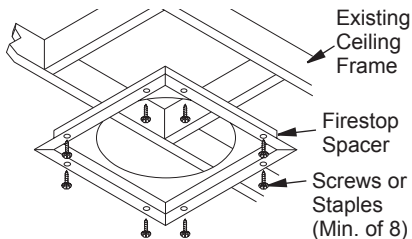

**Figure 9 - Elbow Offset**
Continue to assemble chimney sections as outlined above, making sure both inner and outer pipe sections are locked together. When installing double wall snap-lock chimney together, it is important to assure joint between chimney sections is locked. Check by pulling chimney upward after locking. Chimney will not come apart if properly locked. It is not necessary to add screws to keep chimney together (exception, see Figure 9, page 8).
- All pipe connections between the offset and return must be secured with two screws on the outer pipe only (see Figure 9, page 8). Do not penetrate the inner stainless.